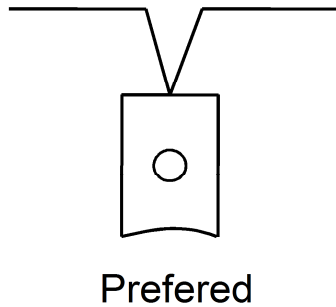

Fig 3a. Connection to moduels
1. It is recommended that the “V” or Kelvin connection be employed as shown at Fig: 3a to minimize the over voltage applied on the protected equipment. Be sure not to run input and output wiring parallel.